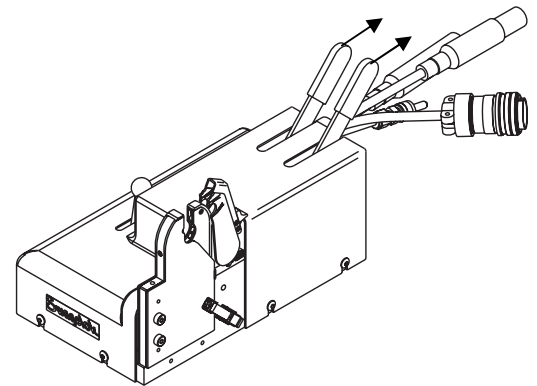

Figure 13 *Pushing Actuator Handles to the Open Position*
4. Open the side plates by pushing each actuator handle back to the open position. See Figure 13.